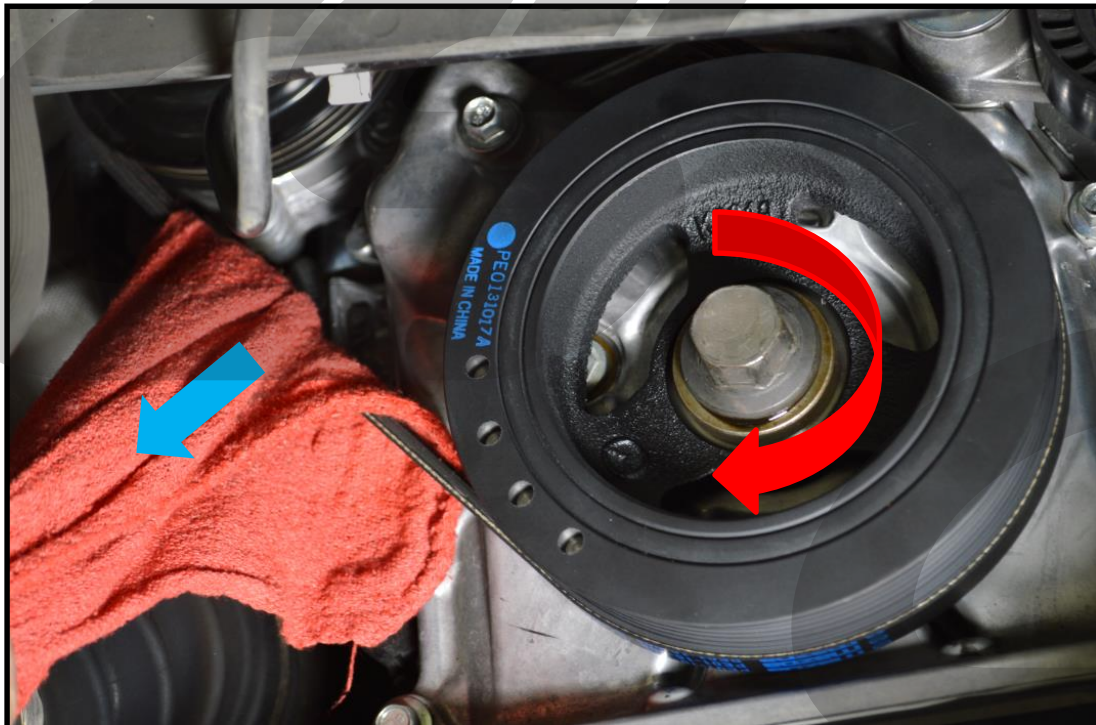

Figure 3b
- Shown in **Figure 3b**, use the clean shop towel to pull the belt in the direction of the blue arrow and outward while rotating the crank clockwise. This should walk the belt off the water pump pulley.